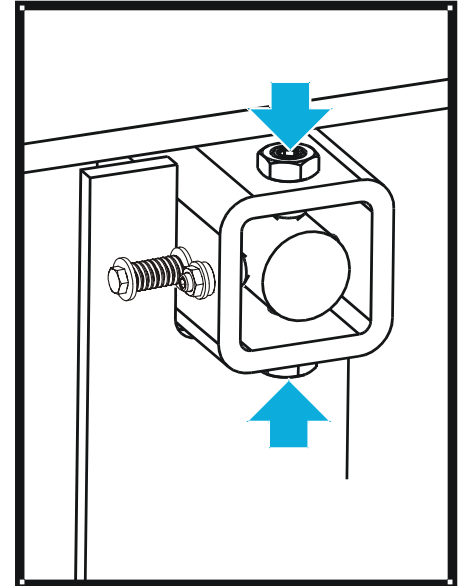

FIG. 6-3
**See Figure 6-3.** Use the vertical adjustment screws to adjust the drive-side blade wheel. To tilt the wheel , loosen the top adjustment screw one quarter turn. Loosen the jam nut on the bottom adjustment screw and tighten the screw. Tighten the top and bottom jam nuts.